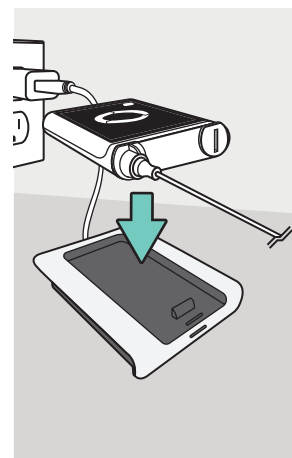

Figure 5
- b. Place your iLet Device onto the charger (see Figure 5). Be sure to remove your device clip (iLet Clip) from the iLet Device before placing it on the iLet Charge.